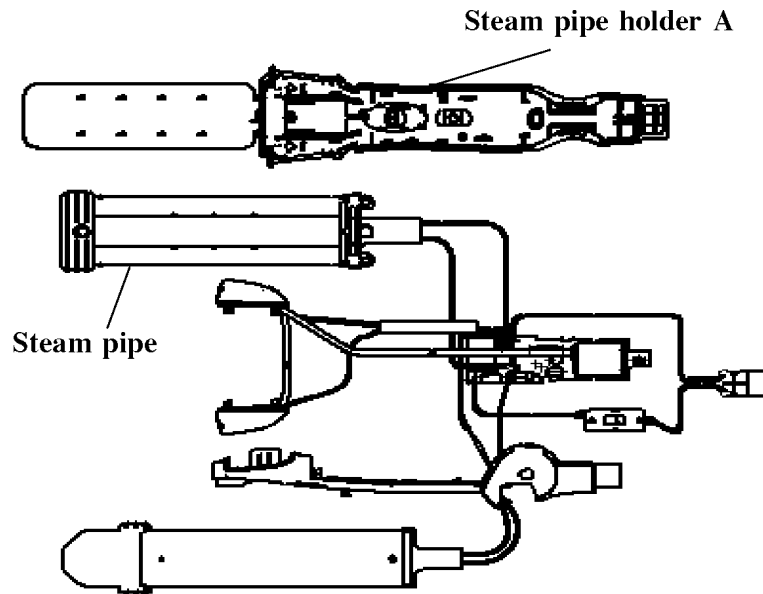

Figure 10
6. Take off Steam pipe from Steam pipe holder A as shown in Figure 10.